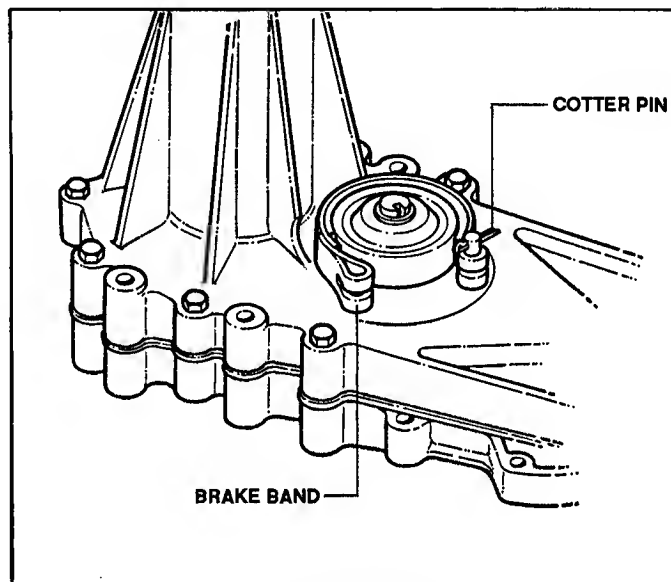

FIGURE 10.2
2. Remove Brake Band by removing cotter pin. Pull Brake Band off and inspect pad inside band for wear. Replace if necessary. See Figure 10.2.